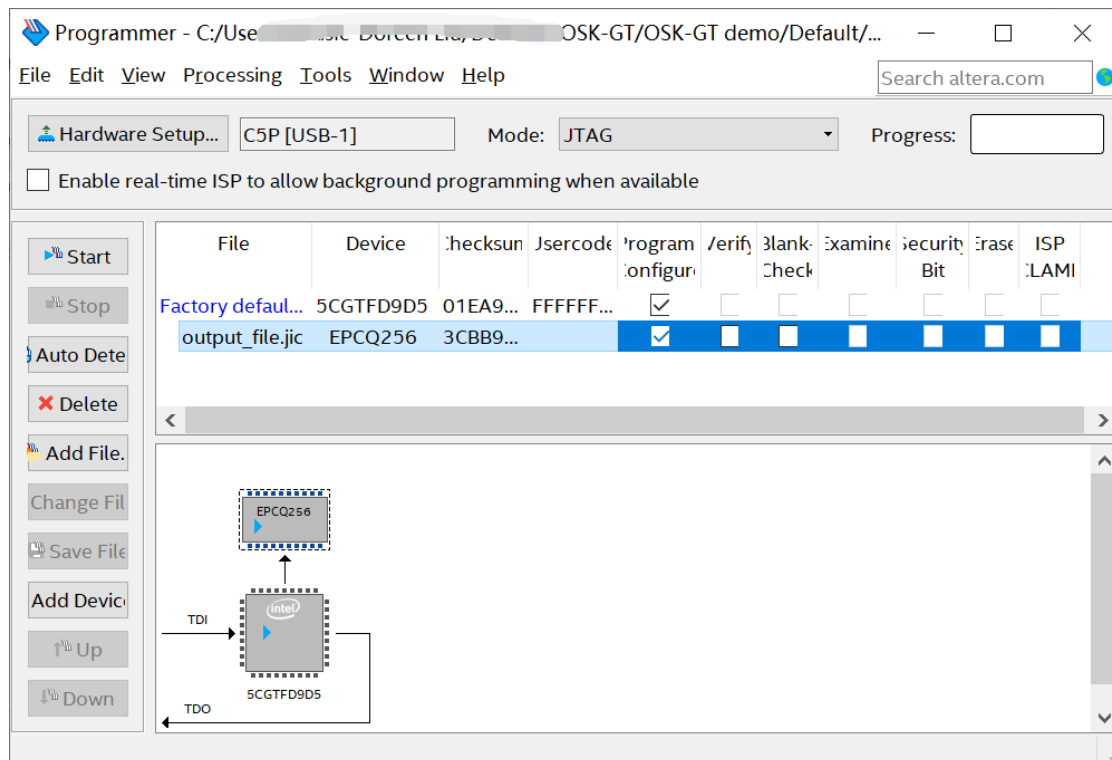

Figure 6-7 Quartus Prime Programmer window with .jic file
4. Program the EPCQ device by clicking the corresponding **Program/Configure** box. A factory default SFL image will be loaded, as shown in **Figure 6-7**.